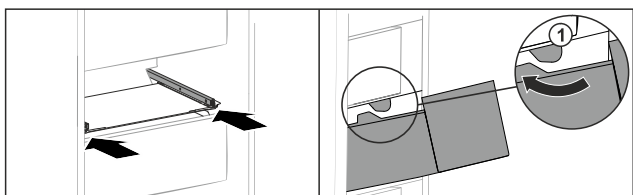

Fig. 198
- ▶ Guide drawer around the stoppers Fig. 198 (1).